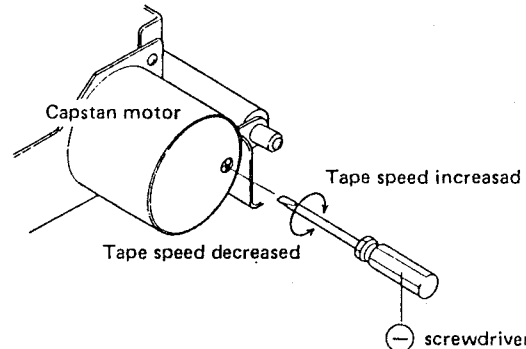

Fig. 12-2 Tape speed adjustment
2. Play the 3kHz portion of the STD-301 test tape. At the beginning of the tape, the frequency should lie between 3000Hz and 3010 Hz, and may be adjusted by turning the variable resistor located in the capstan motor adjustment hole shown in Fig. 12-2. Turning clockwise increases tape speed, while turning counterclockwise decreases the speed.